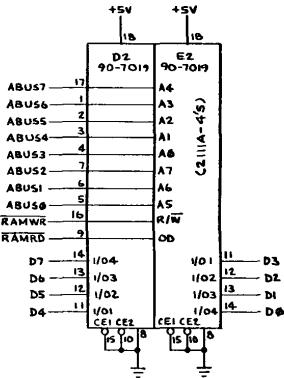

Figure 4-7 RAM Memory Schematic Diagram
3. RAM memory F3, F5, H3, H5, K3, K5, L3, and L5 (See Figure 4-7)
(See Figure 4-7)